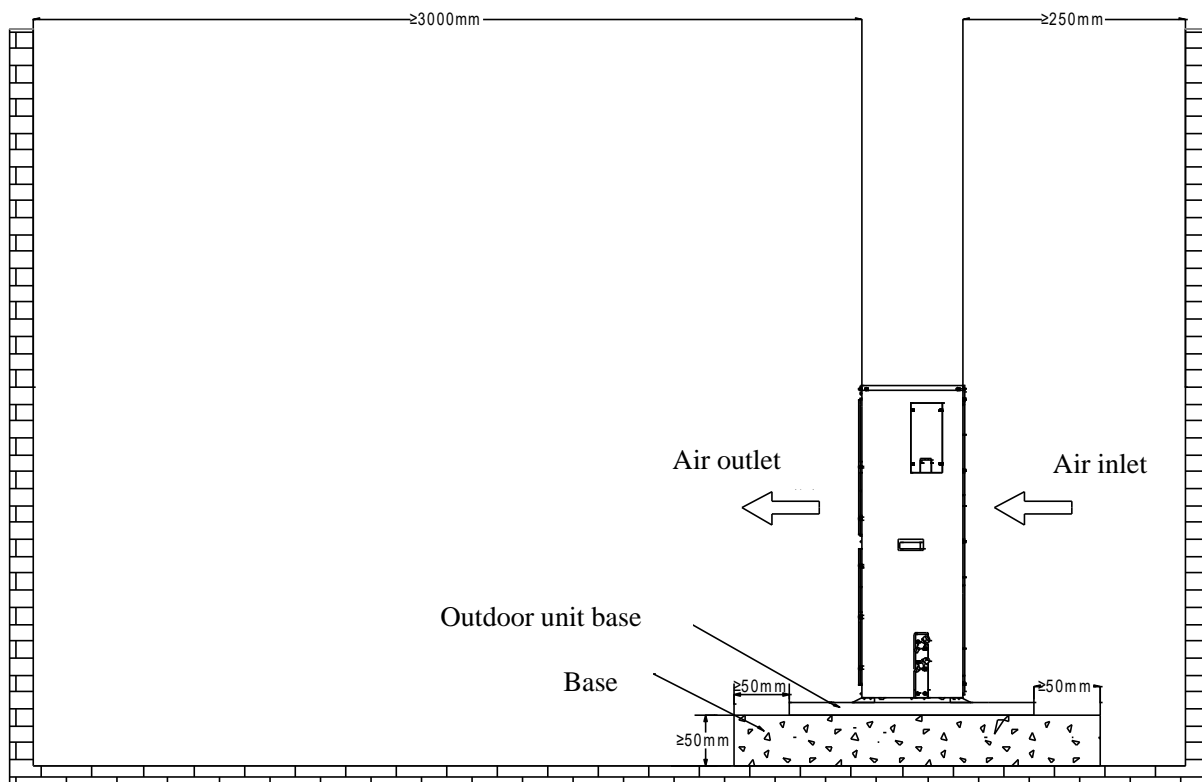

Figure 3-5 Schematic diagram of overlapping placement and installation of 5kW outdoor unit
3. Fix the air conditioner to the cabinet and buckle the nut into the mounting hole corresponding to the column hole of the cabinet, as shown in Figure 3-5.